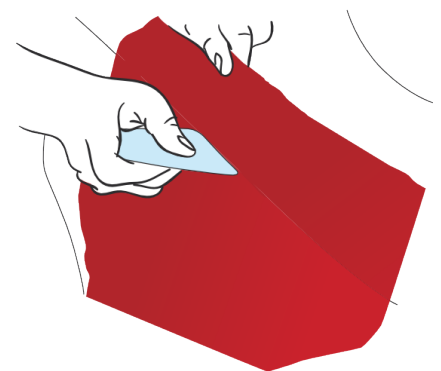

Figure 38
- › Shape the film with your finger on the part's contours. Lift the film of the adjacent part and drag it into the hollow using a squeegee so as to shape the joint edge. (FIG. 38)